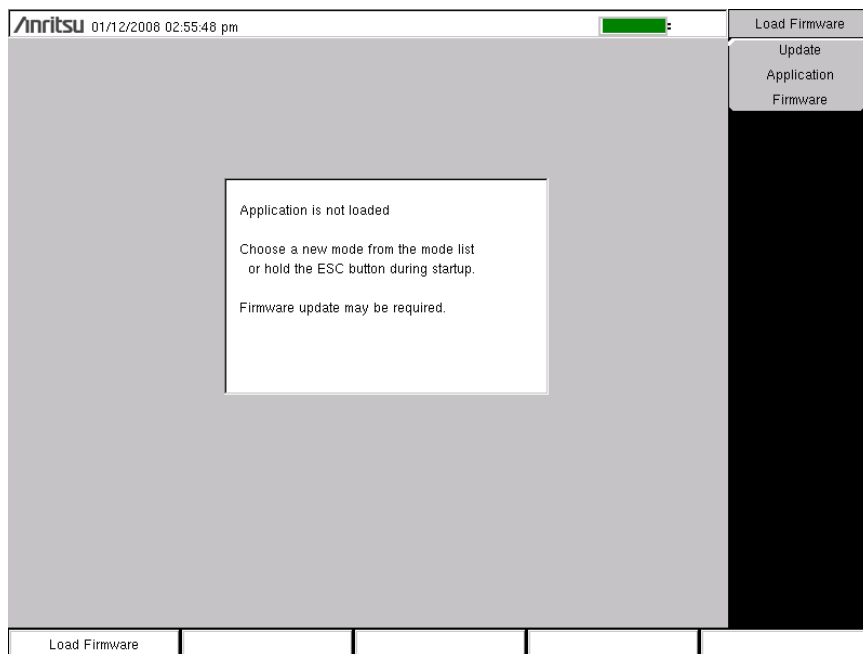

Figure 6-6. Firmware Main Menu
2. Press the follow key sequence: **Shift > System (8) > System Options > Reset > Update Firmware**. The Load Firmware main menu key is displayed (Figure 6-6).